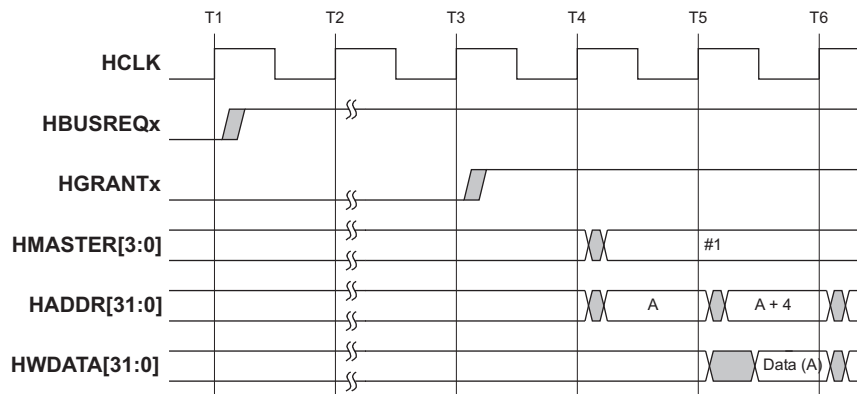

Figure 13: Granting Access with No Wait States
- Granting access with no wait states (Figure 13 on page 40)